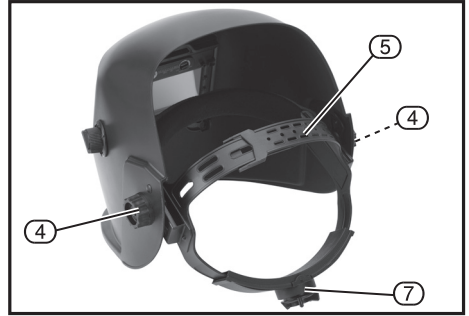

FIG.1
8.1 COMFORT AND FIT ADJUSTMENTS - FIG. 1